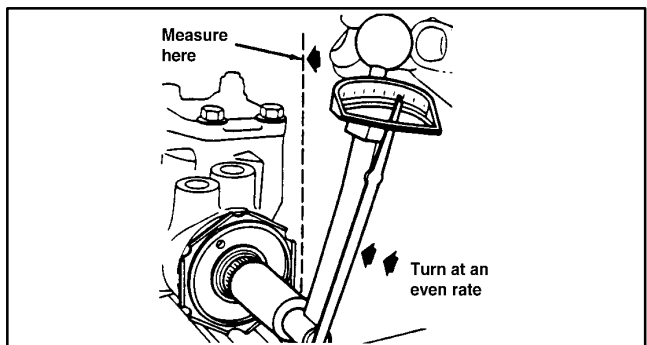

Figure 45
3. Starting at either stop, turn stub shaft halfway back. When gear is centered, flat on stub shaft will face upward and be parallel with side cover (Fig. 45).